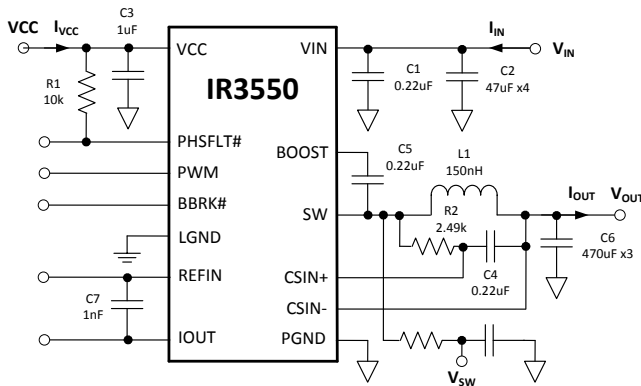

Figure 32: IR3550 Power Loss Measurement
Circuit of Figure 32,  $V_{IN}=12V$ ,  $V_{OUT}=1.2V$ ,  $f_{SW} = 400kHz$ ,  $L=150nH$  (0.29mΩ),  $VCC=7V$ ,  $T_{AMBIENT} = 25^{\circ}C$ , no heat sink, no air flow, 8-layer PCB board of 3.7" (L) x 2.6" (W), no PWM controller loss, no inductor loss, unless specified otherwise.
Circuit of Figure 32,  $V_{IN}=12V$ ,  $V_{OUT}=1.2V$ ,  $f_{SW} = 400kHz$ ,  $L=150nH$  (0.29mΩ),  $V_{CC}=7V$ ,  $T_{AMBIENT} = 25^{\circ}C$ , no heat sink, no air flow, 8-layer PCB board of 3.7" (L) x 2.6" (W), no PWM controller loss, no inductor loss, unless specified otherwise.
The single-phase IR3550 efficiency and power loss measurement circuit is shown in Figure 32.